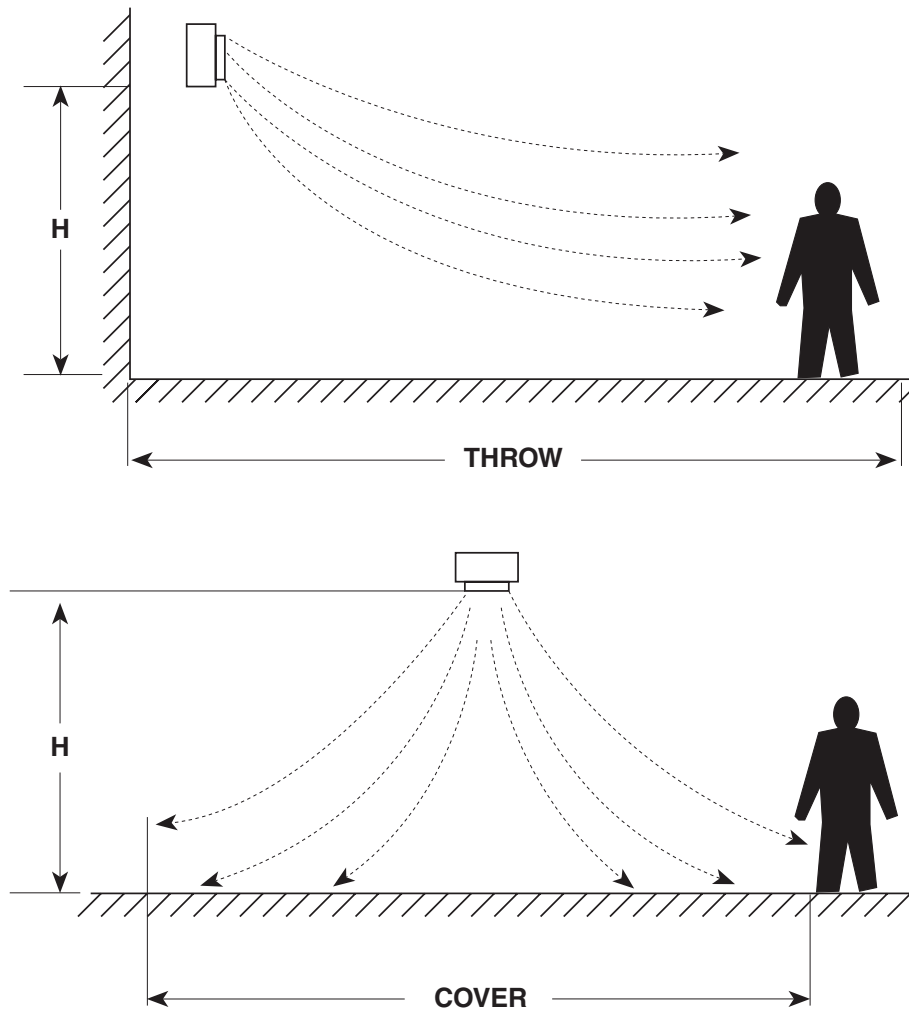

Figure 1. Heater Throw and Cover (Refer to Table 1)
*Maximum mounting height (see Figure 1).